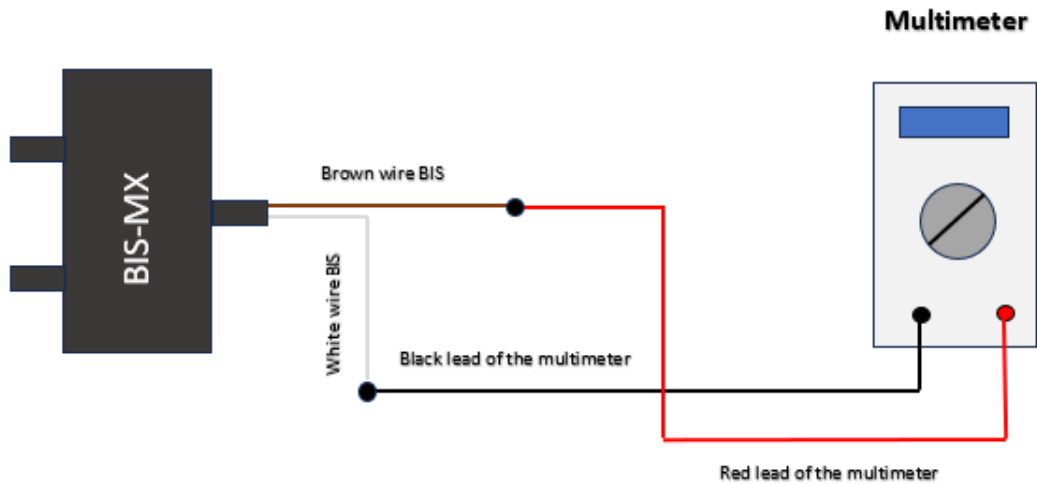

Fig. 3 Connection Diagram
2. Assemble the connection circuit according to “Fig. 3 Connection Diagram”.